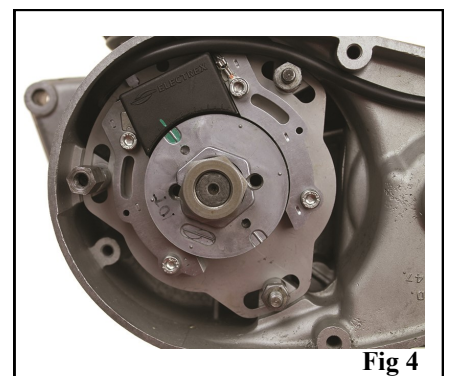

Fig 4
- Step 5** Refit the inner cover, slide the stator on to the 3 studs in the position show (see fig. 4.).
- Step 7** Unscrew spark plug, set piston to TDC position (use dial gauge if available). Moving the rotor align the green stator mark with the green rotor mark. Tighten the rotor retaining nut to lock onto the shaft, see fig 4